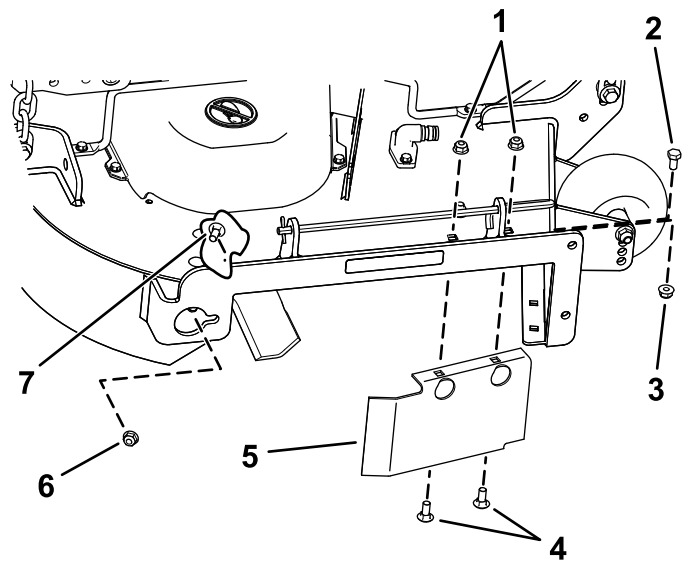

Figure 36
8. Remove the carriage bolt (5/16 x 3/4 inch) and locknut (5/16 inch) on the rear wall of the mower deck securing the baffle to the deck (Figure 36).
9. Locate the baffle guard at the front edge of the side discharge opening (Figure 36).
10. Remove the fasteners securing the baffle guard and the right baffle to the mower deck (Figure 36).